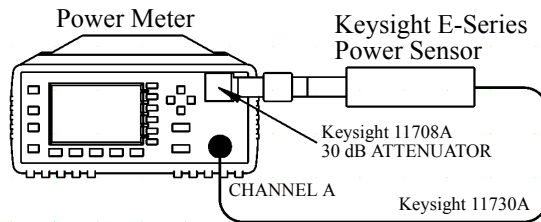

Figure 2-6: Sensor Functional Test Setup with Attenuator
6. Connect the 30 dB attenuator as shown in **Figure 2-6**.